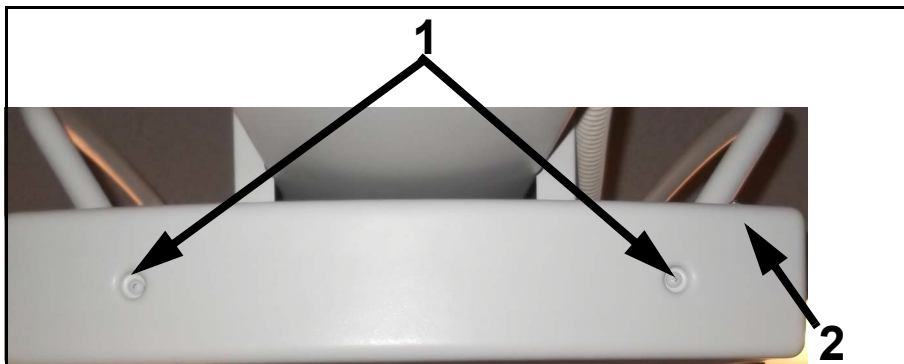

Figure 6-9. Bottom Cover Screws
- 3 Unscrew the two bottom cover screws (1 in Figure 6-9) and remove the bottom cover (2).